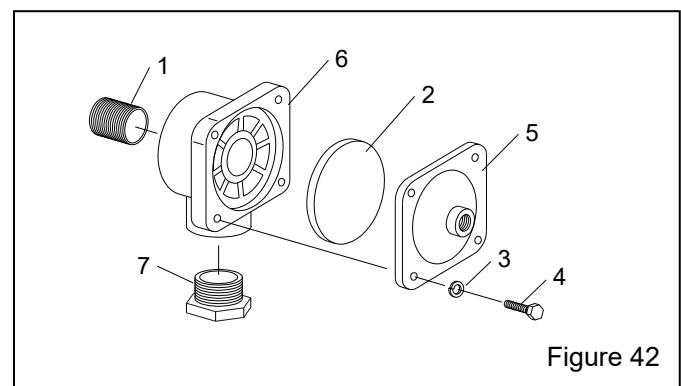

Figure 42
9.6 1" Diaphragm Outlet Valve – Figure 42